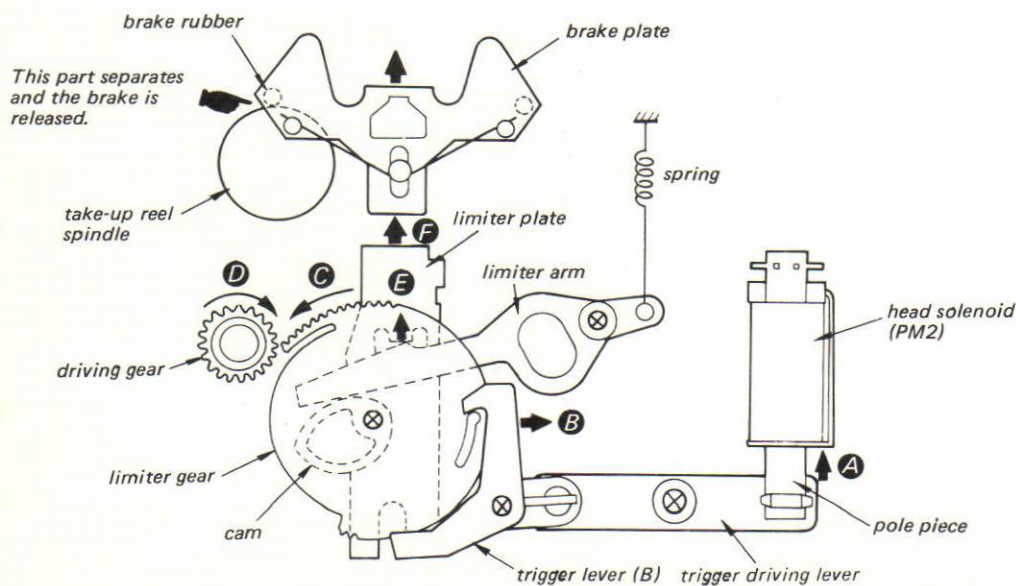

Fig. 4
2. Forward Operation (See Figs. 4, 5)
- As the trigger driving lever is pulled by the pole piece, the trigger lever (B) is pulled in direction **B**.
- As the trigger lever (B) moves, the lock of the limiter gear is released. Because the limiter arm is pulled by the spring, the limiter gear rotates in direction **C** and interlocks with the driving gear.